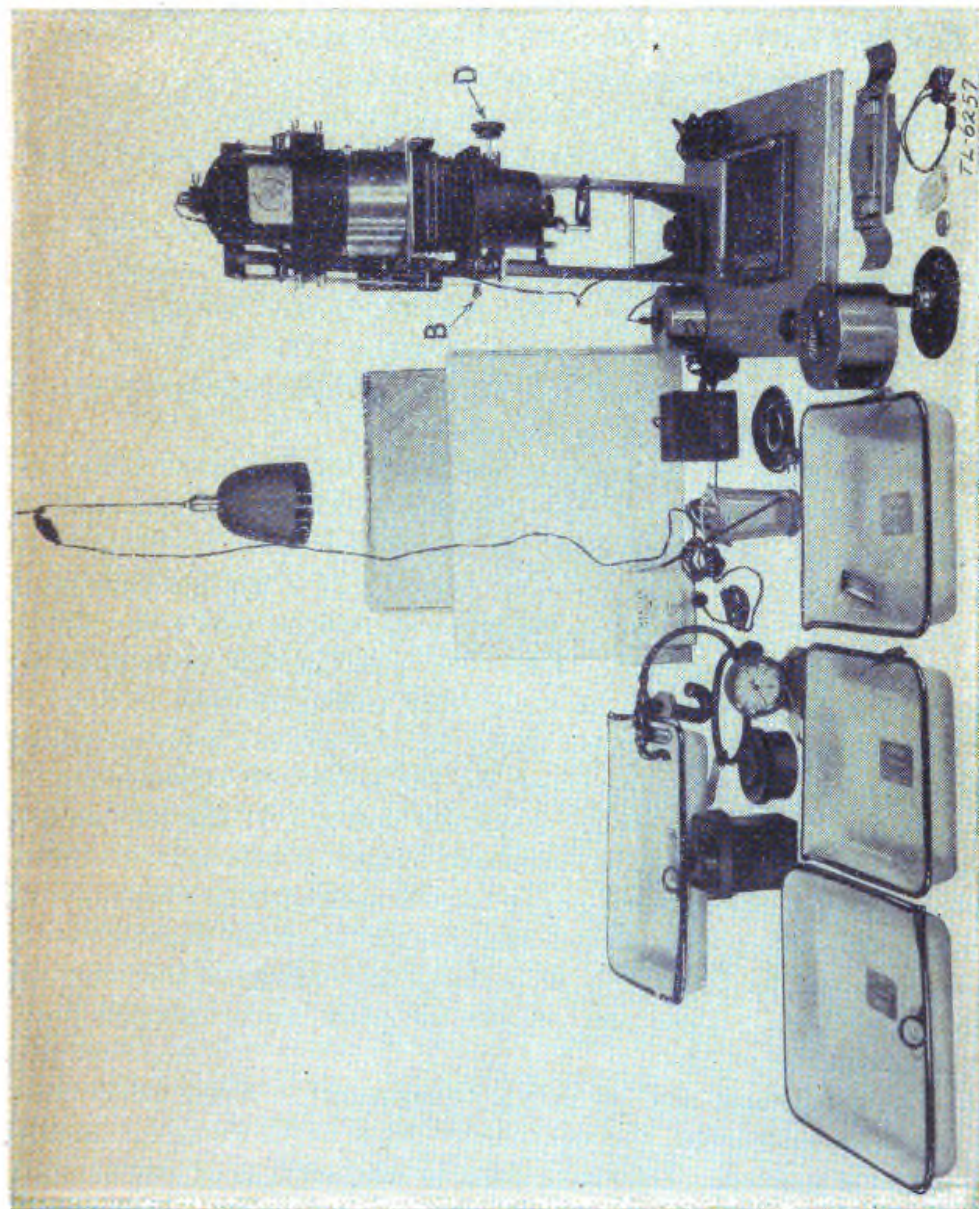

FIGURE 4.—Processing equipment P'H-406 ready for use.
forward film gate release lever *B* (fig. 4), located just to the left of the lamp house. If the print is to include the entire area of the negative, the composing of the print is a matter of correct spacing of the image on the paper board. To accomplish this, loosen the bakelite printer head lock screw *C*, located on the side of the printer head
bracket, and slide the entire printer head vertically along the guide bars until the correct image size is obtained. Open the lens wide and focus it by rotating focusing knob *D* (fig. 4), located just to the right of the lens. Frequently it is not necessary to include the entire image of the negative in the print. In such cases it is often possible to improve the composition of the print by local masking of the image.
b. Printer head base.—The printer head base consists of two steel stampings, to which are fastened the bellows, film gate, film gate receiver, lens focusing mechanism, and levers for attaching the lamp house and the condenser assembly. The adjustment knob *D* (fig. 4) moves the lens vertically along the guide bars by means of a friction drive. In this way, the lens is focused. A positive lock set screw for clamping the printer head in any desired position is located on the side of the left frame. The film gates are of pressed steel construction, and are equipped with internal springs that automatically open the gate when the film gate release lever is operated. The operation of this lever relieves the gate of the weight of the lamp house, and makes it easy to insert the negative in the gate. A spring loaded reel mounted on the printer head base, with the end of the tape fastened to the top of the girder, counterbalances the weight of the printer head. This reduces to a minimum the effort required of the operator in moving the printer head for print size selection. A red filter for use with bromide paper is mounted just below the lens on a swivel mount.